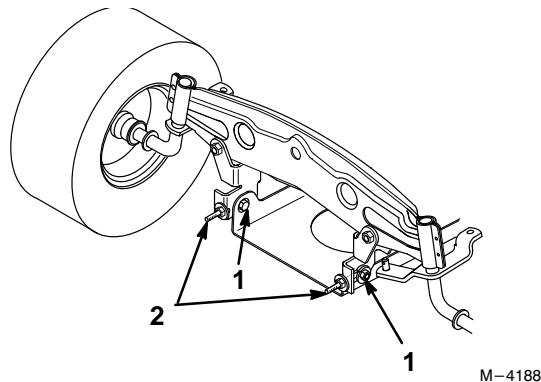

Figure 52
7. To adjust front-to-rear blade slope loosen front pivot plate mounting bolts slightly (Fig. 52).
8. Rotate lock nuts on eyebolts to change adjustment (Fig. 52). To raise the front of the mower, tighten the eyebolt lock nuts. To lower the front of the mower, loosen the eyebolt lock nuts.
9. After adjusting both eyebolt lock nuts evenly, check the front-to-rear slope again. Continue adjusting eyebolts until the front blade tip is 0-3/8" (0-9.2 mm) lower than the rear blade tip (Fig. 52).
10. When front-to-rear slope is correct, tighten the pivot plate mounting bolts (Fig. 52).